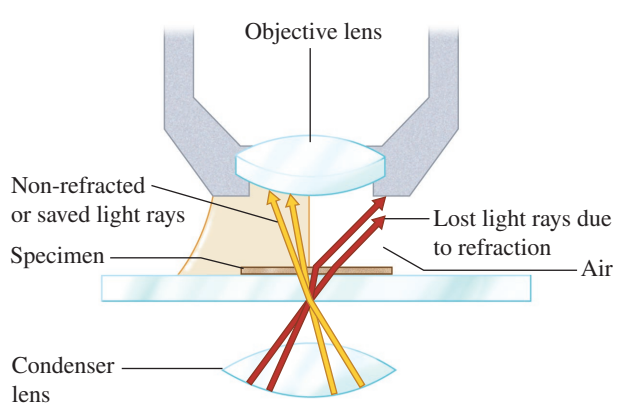

Figure 1.4 Immersion oil, having the same refractive index as glass, prevents light loss due to refraction.
numerical aperture is diminished (figure 1.4). The greater the loss of refracted light, the lower the numerical aperture. The final result is that the resolving power is greatly reduced.
**Oil Immersion Techniques** The oil immersion lens derives its name from the fact that a special mineral oil is interposed between the specimen and the 100× objective lens. As stated previously, this reduces light refraction and maximizes the numerical aperture to improve the resolution. The use of oil in this way enhances the resolving power of the microscope. Figure 1.4 reveals this phenomenon.